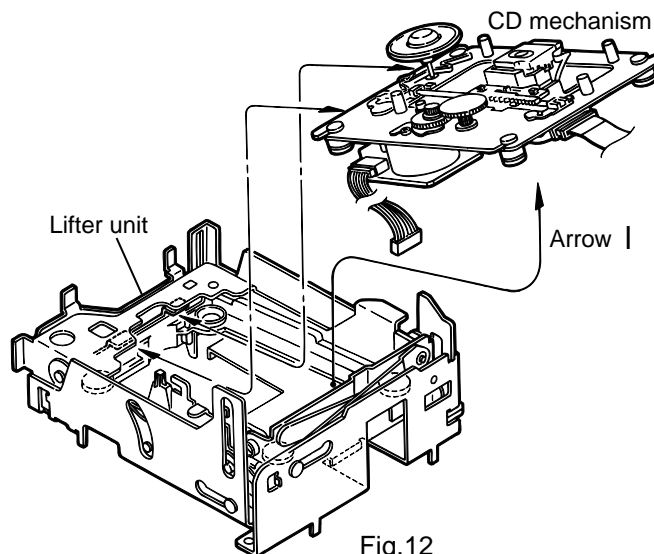

Fig.12
2. By raising the CD mechanism assembly in the arrow direction "l", remove the assembly from the lifter unit (See Fig.12).